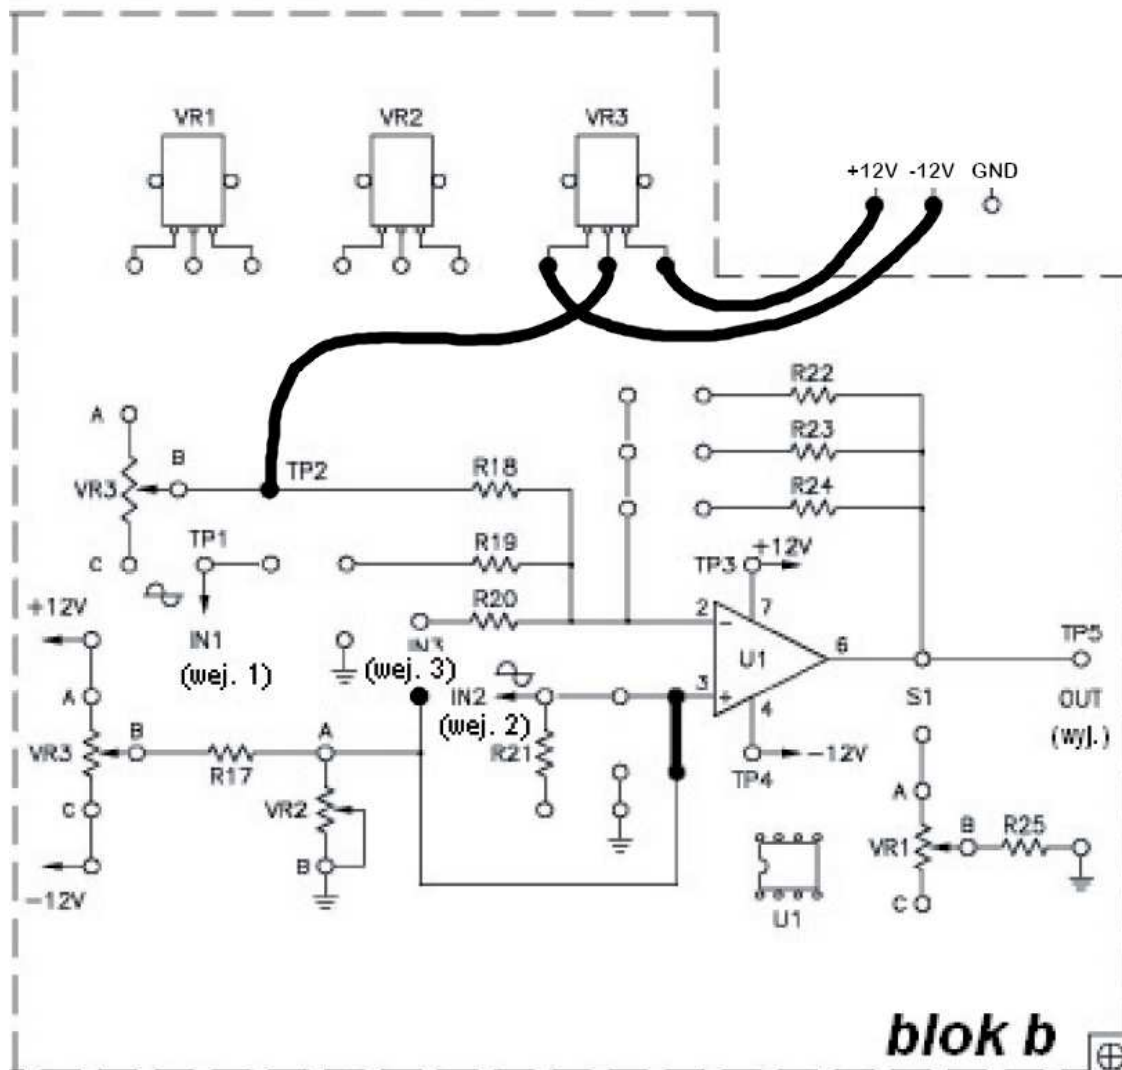

Fig. 5: Electrical assembly schematic (KL-25006 part b)
1. Make the connections according to the assembly schematic fig. 5. The circuit should be powered with + 12 V_{DC} and – 12 V_{DC}.